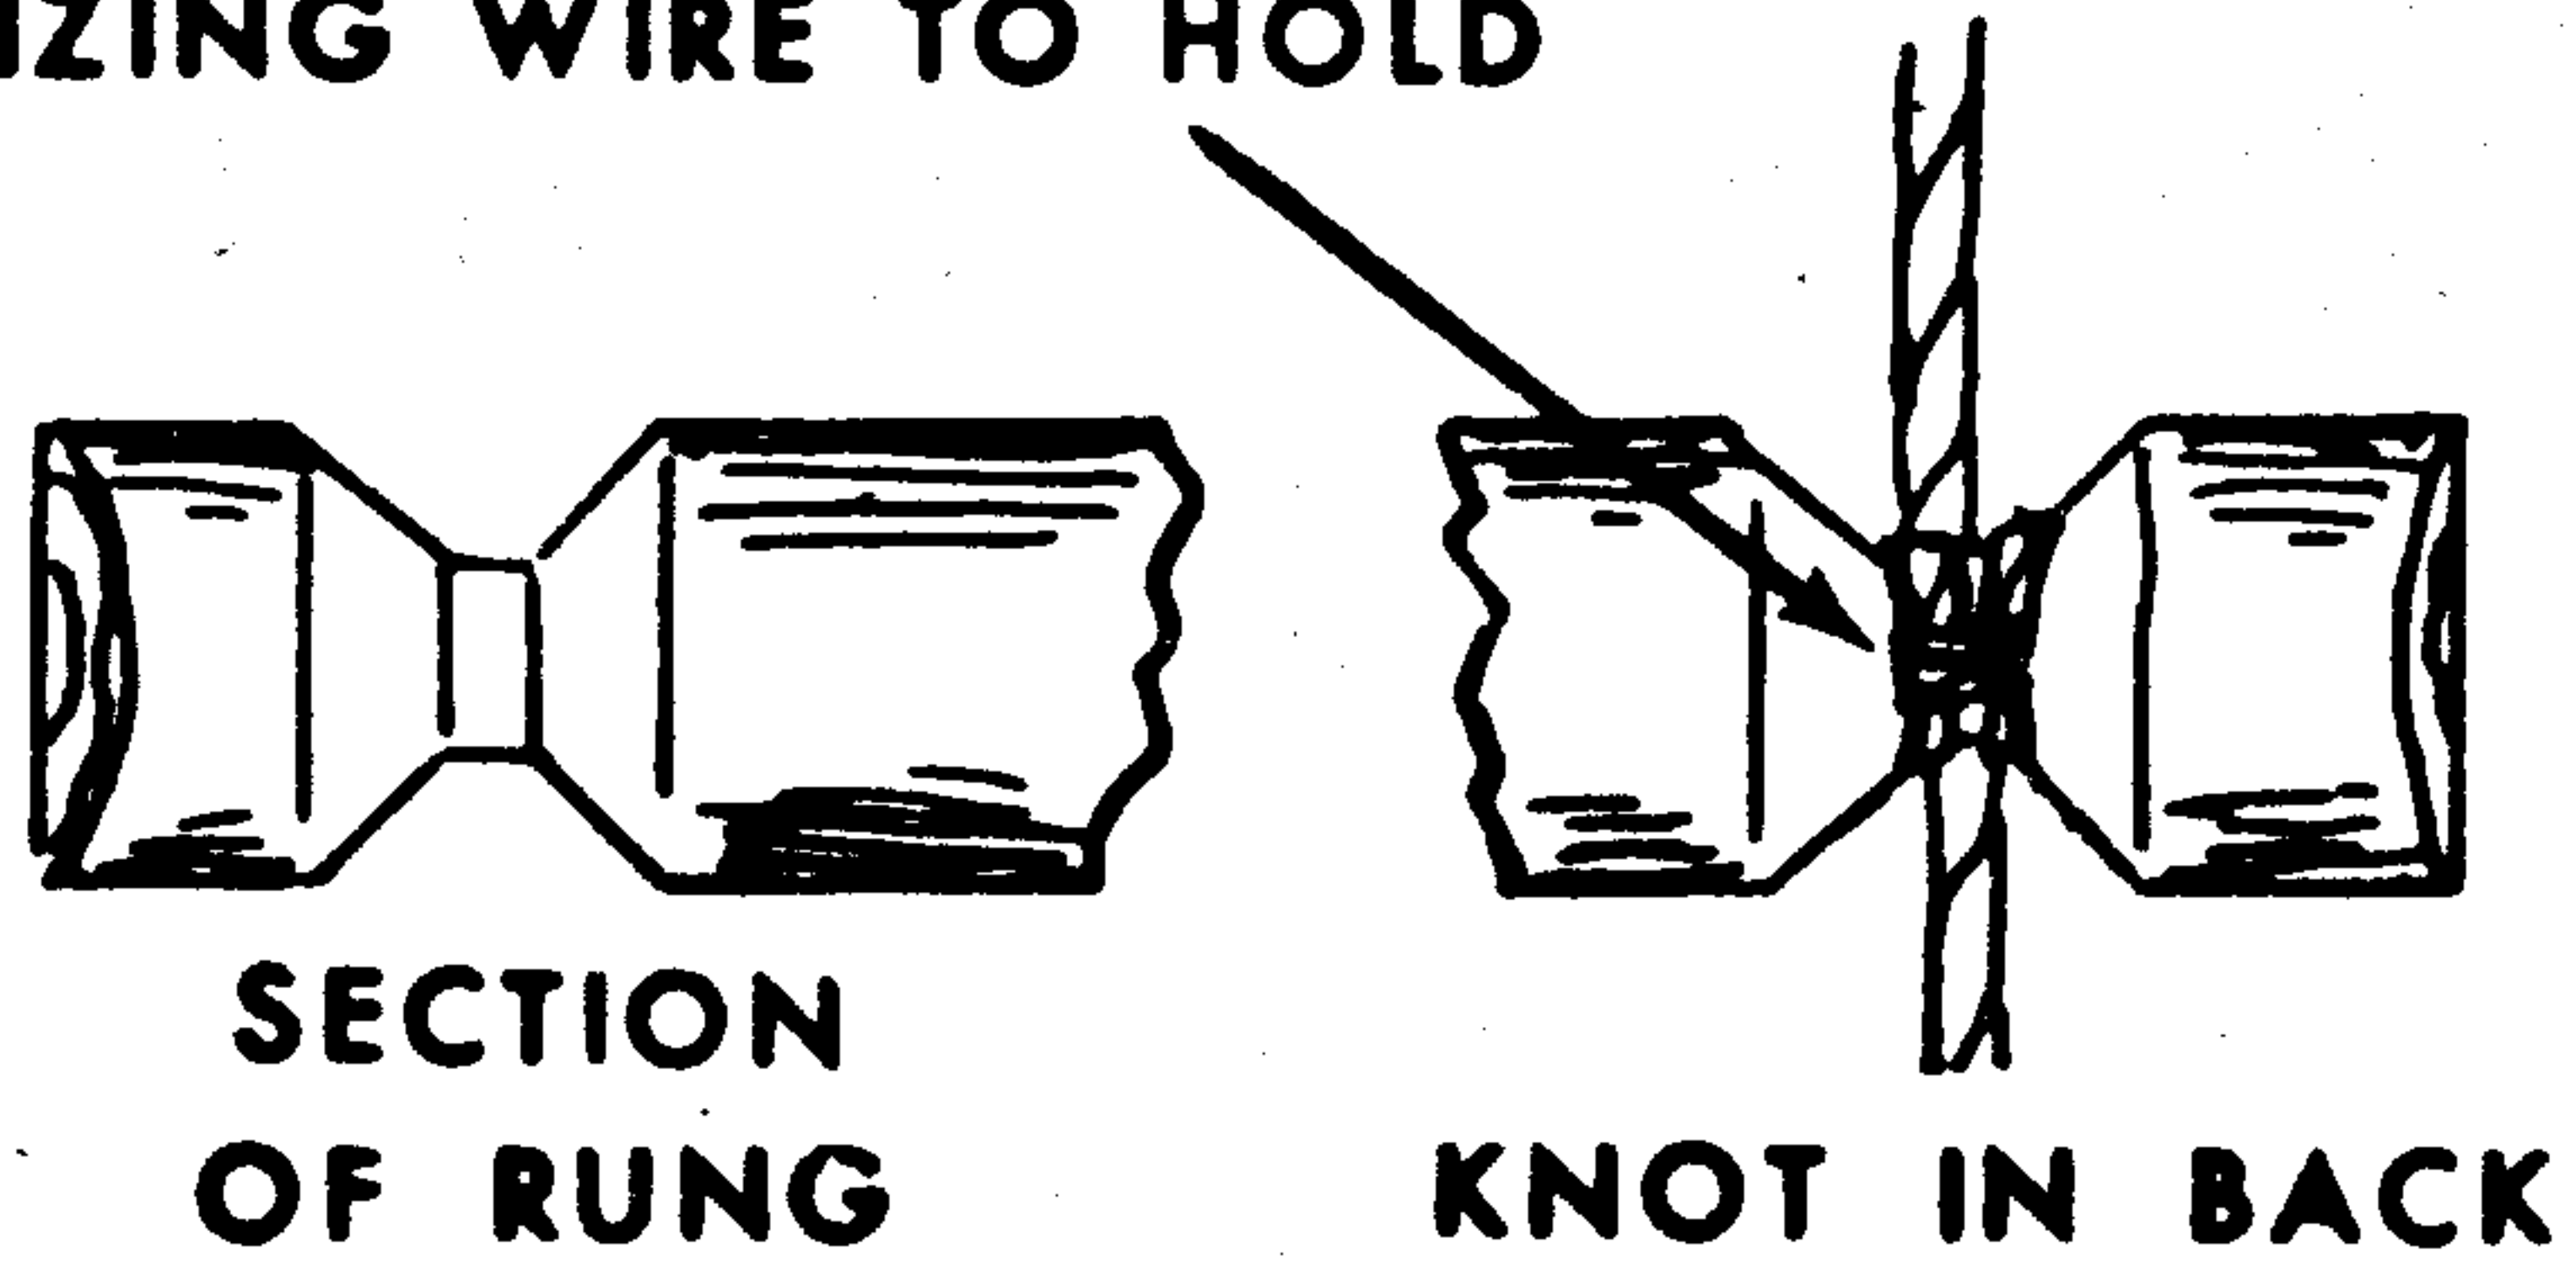

Figure 2-60. Wood rungs.
d. Fiber Rope Ladder With Wood Rungs. Fiber rope ladders with wood rungs (fig. 2-60) can be made by using finished lumber or native material for rungs. When native material is